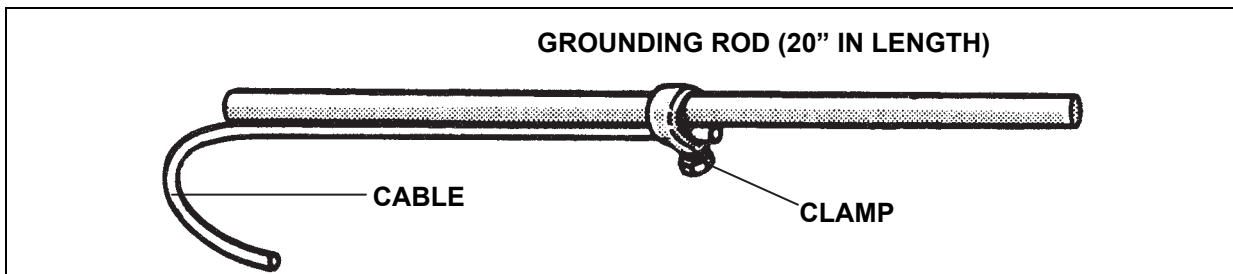

Figure D-1. Cable Clamped to Rod
- Using the conductor splice, clamp one end of the cable to the 20-inch section of rod approximately 11 inches from the end of the rod (figure D-1).